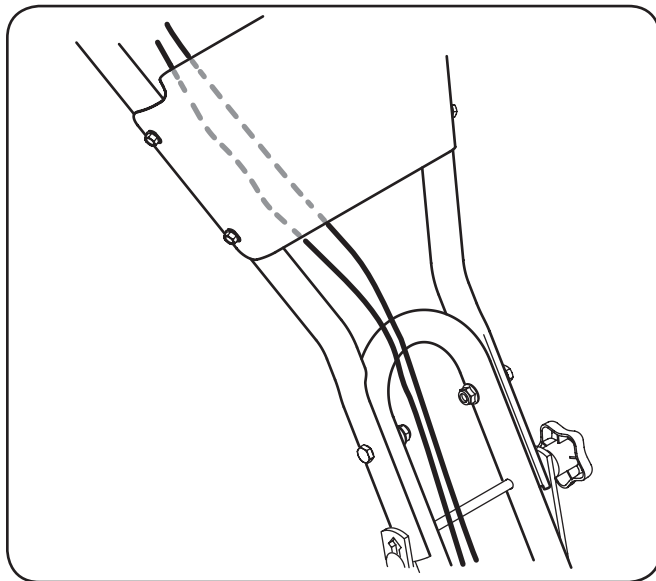

Figure 3-6
- Carefully unwrap the cables from the shipping position. To attach the clutch cables, feed the cables up the front of the lower right handle and behind the handle panel. See Figure 3-6.